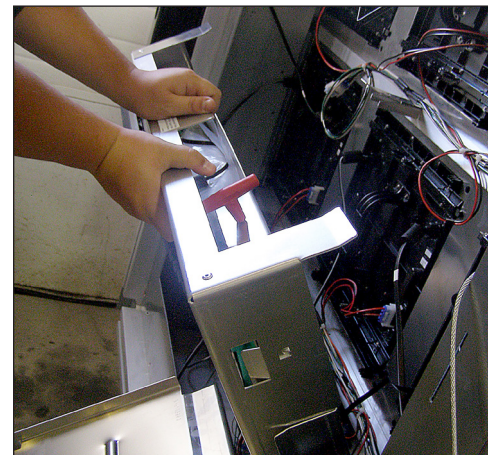

Figure 2: Spare Parts in Spare Parts Rack
Every Daktronics digital billboard is shipped with spare parts that include commonly replaced components. The table lists some of the components that may be included in the spare parts rack. Refer to **Figure 2**. Refer to the spare parts inventory list contained in the bag in the spare parts rack for a list of the parts. Contact the Region Service Specialist (RSS) to order additional spare parts.
2. Gently pull the rack downward. Refer to **Figure 2**.